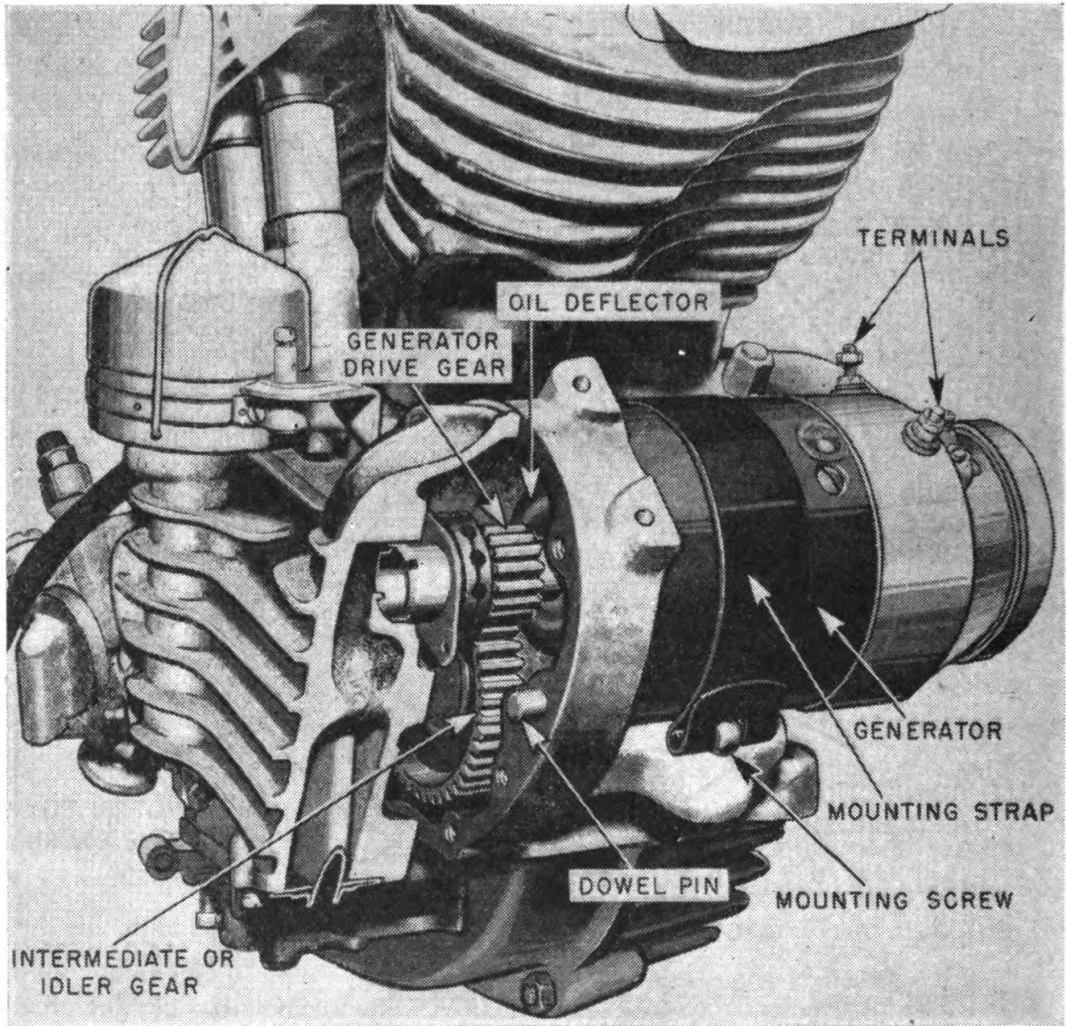
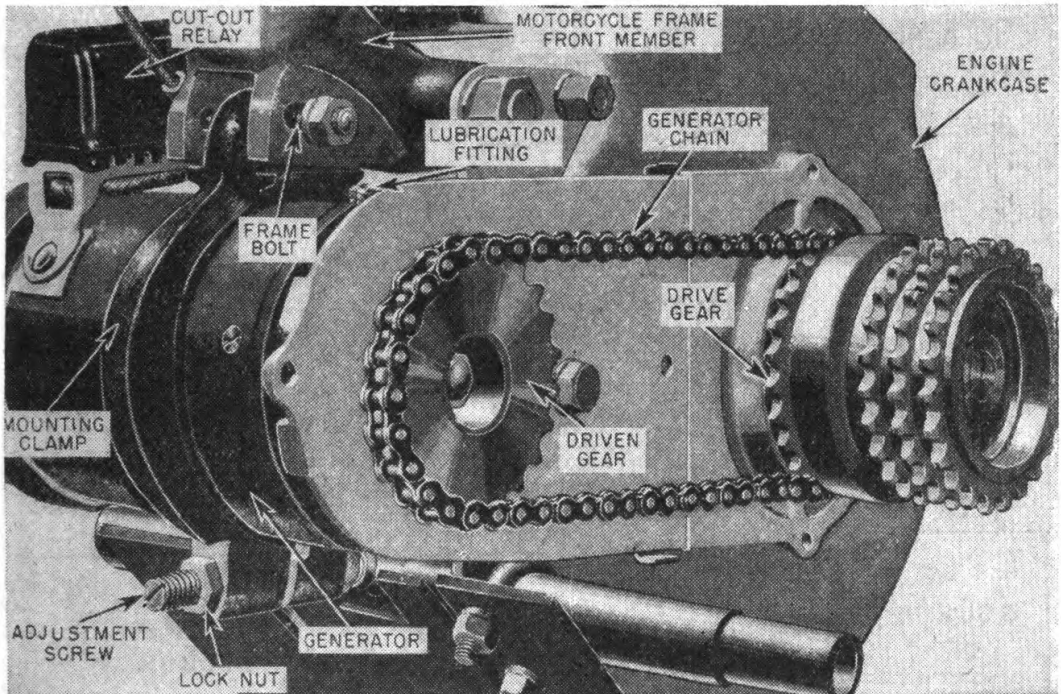

FIGURE 93.—Gear-driven generator.
FIGURE 94.—Chain-driven generator with chain cover removed.
gear train (fig. 93) or a chain or belt (fig. 94). A chain- or belt-driven generator may be moved forward or back by an adjustment screw and frame bolt to correct the tension of the chain or belt. The chain is inclosed, and lubricated by a breather line running from the oil tank to the chain cover (cover removed in fig. 94).
*e. Cut-out relay.*—The cut-out relay (figs. 94 and 95) is a magnetic device connected directly between the battery and generator to open and close the circuit, depending upon whether or not the generator is charging. When the generator runs at very low speed or is not running at all, the current from the battery will keep the points open. When the generator is running fast enough to generate more than the battery voltage, the points will close and the battery will be connected in the circuit. There are two windings on a relay